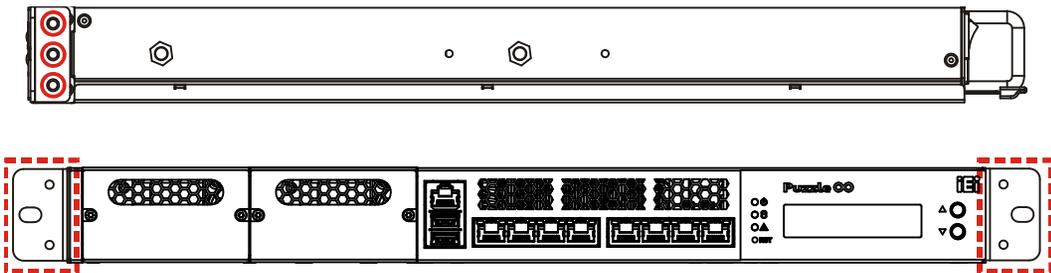

Figure 3-15: Rack Mount Bracket Installation
- Step 1:** Install the rack mount brackets to the sides of the PUZZLE-IN001A by inserting three retention screws (M4*6) into each bracket (**Figure 3-15**). Make sure the screws are tight and on the right positions.